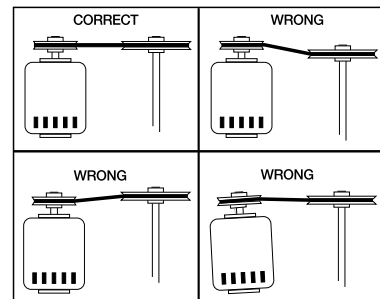

Fig. 10
6. If adjustments are made, it is very important to check the pulleys for proper alignment. Misaligned pulleys lead to excessive belt wear vibration, noise and power loss, see figure 10.